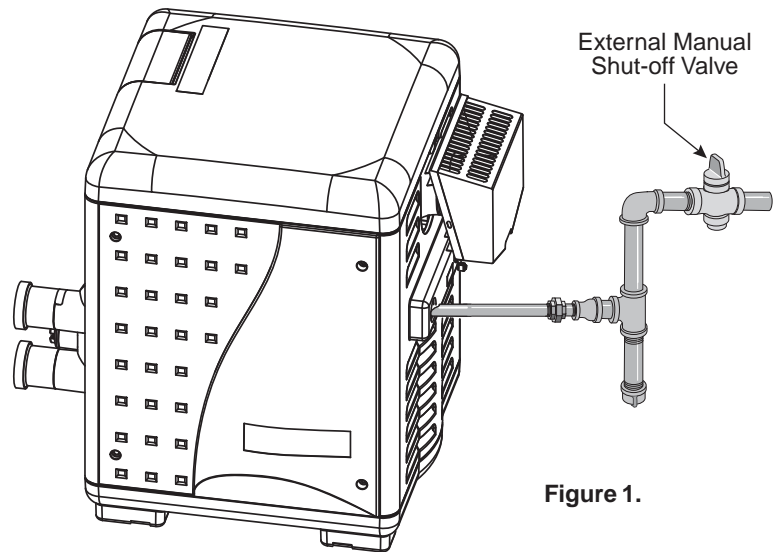

Figure 1.
5. Turn **off** the outside external manual shut-off gas valve, see Figure 1.
6. Wait five (5) minutes to clear out any gas. If you then smell gas, **STOP!** Follow “B” in the “Before Start-up” instructions (page 3). If you don’t smell gas, go to the next step.
7. Turn **on** the outside external manual shut-off gas valve, see Figure 1.
3. Turn **off** the outside external manual shut-off gas valve, see Figure 1.